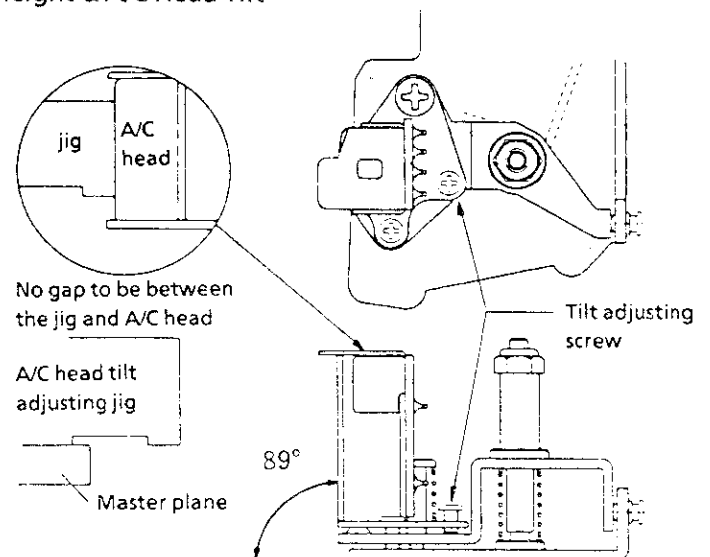

Figure2-12
- 3) Set the A/C head tilt adjusting jig as shown in Fig. 2-12 and check the tilt. Turn the adjusting screw with the Phillips screwdriver to adjust so that there is no clearance between the jig and A/C head.